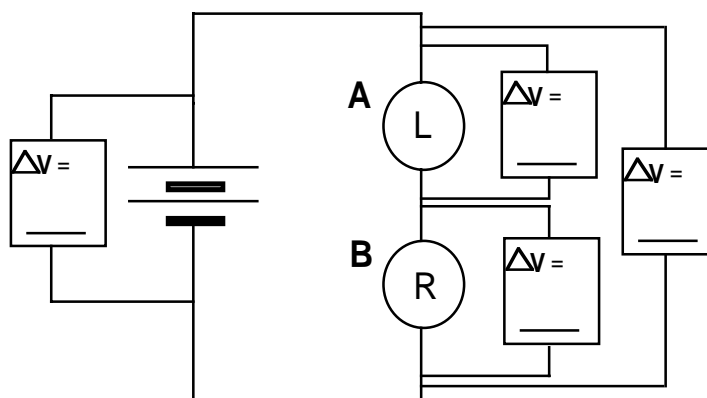

Figure 6.4b
5. Now color code the wires for the circuit diagram in Figure 6.4b, which has two different kinds of bulbs.
6. Set up the circuit in Figure 6.4b. Use your voltmeter to measure the pressure difference at each of the locations shown, and record the readings in the spaces provided on the figure.